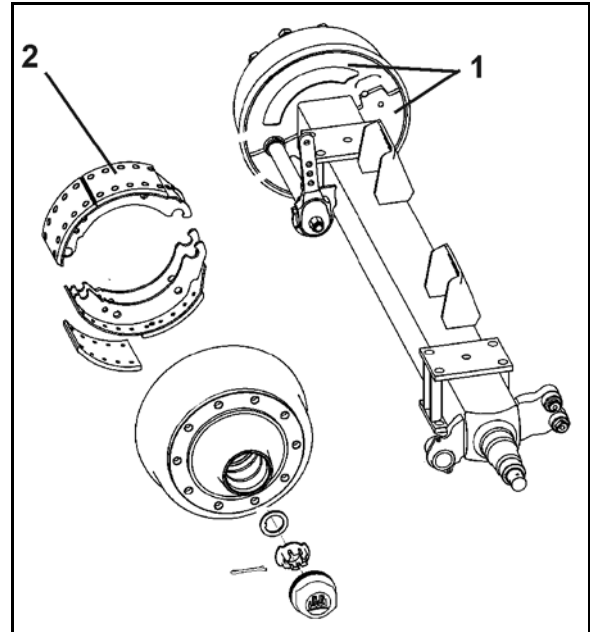

Fig. 162
1. Unscrew the two cover plates (Fig. 162/1) on the inside of the brake drum.
Dirt entering the drums may be deposited on the brake pads (Fig. 162/2) and thus die appreciably reduce brake performance.